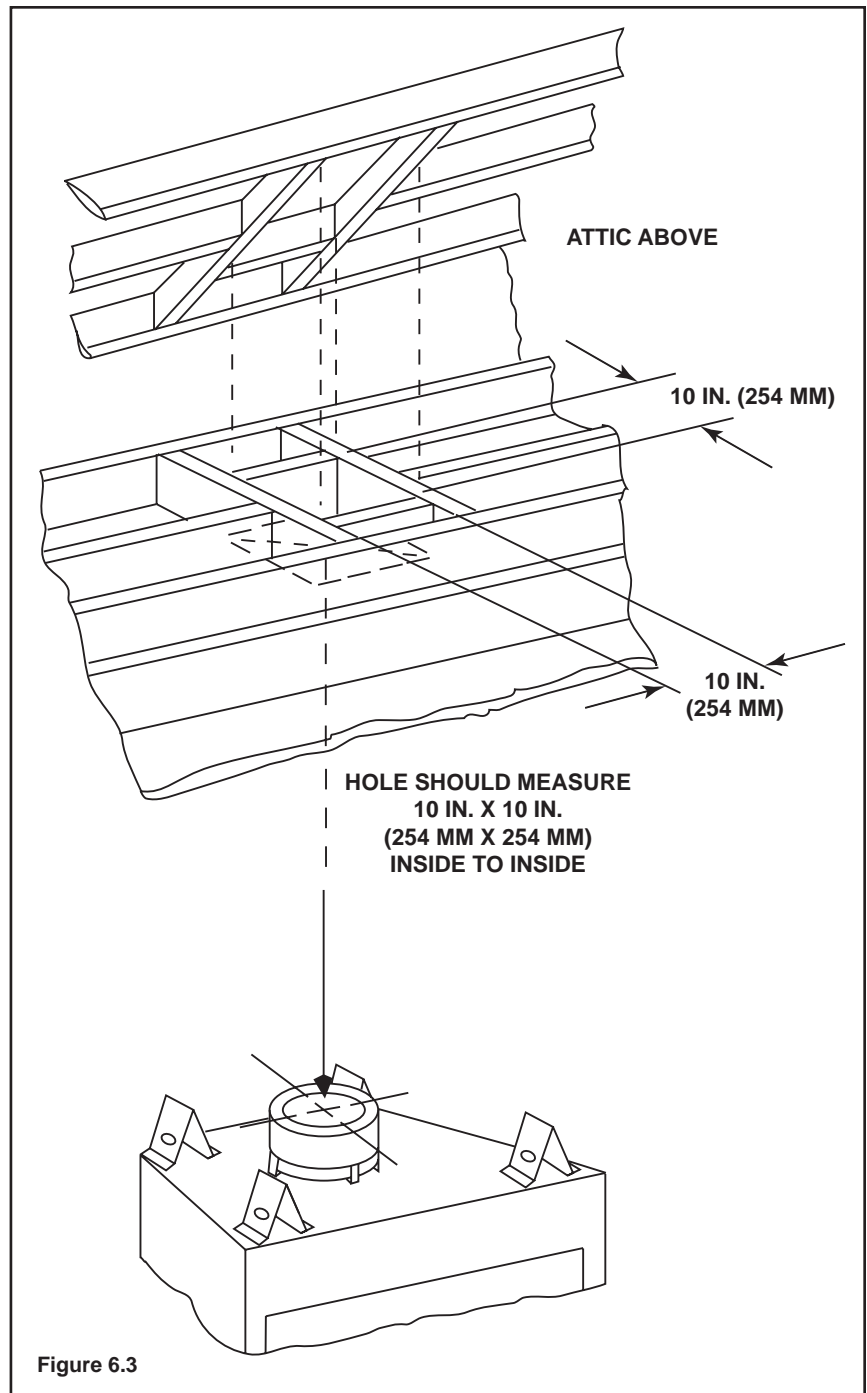

Figure 6.3
- Frame an opening 10 inches by 10 inches whenever the vent system penetrates a ceiling/floor (see Figure 6.3).